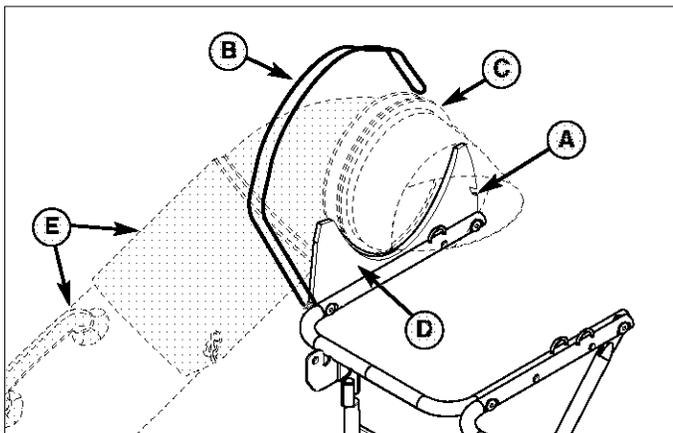

**Figure 8. Install Lower Tube**
1. Lift discharge deflector up (D, Figure 8).
2. Insert lower chute rod (A) into mounting plate (B).
3. Pull rubber strap (C) and secure by placing hole closest to knob in strap completely over locknut (E).